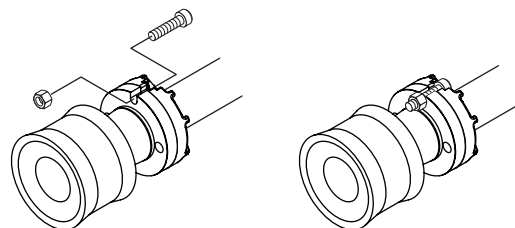

Figure 25
9. There is a groove in the ram flange that will line up with a groove in the cylinder flange. The M12 x 45 bolt with nut will drop into this groove and allow you to pull the ram out. The fit should be snug, but there is no need to tighten the nut with tools (Figure 25). The ram flange and cylinder flange are shown outside of the waterbox for clarity of the illustration.